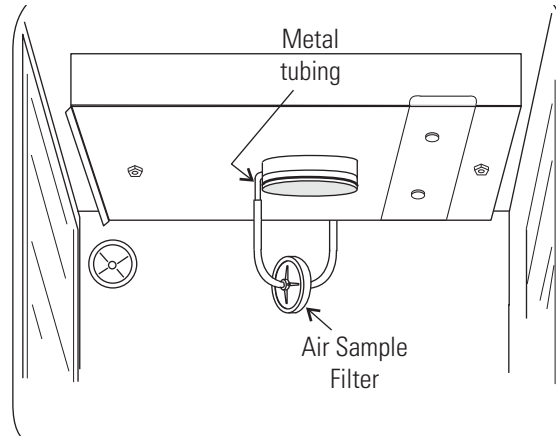

Figure 5-8. Connect to Metal Tubing
3. Figure 5-8 shows the location of the fuse. See Table 5-1 following for replacement fuse specifications.